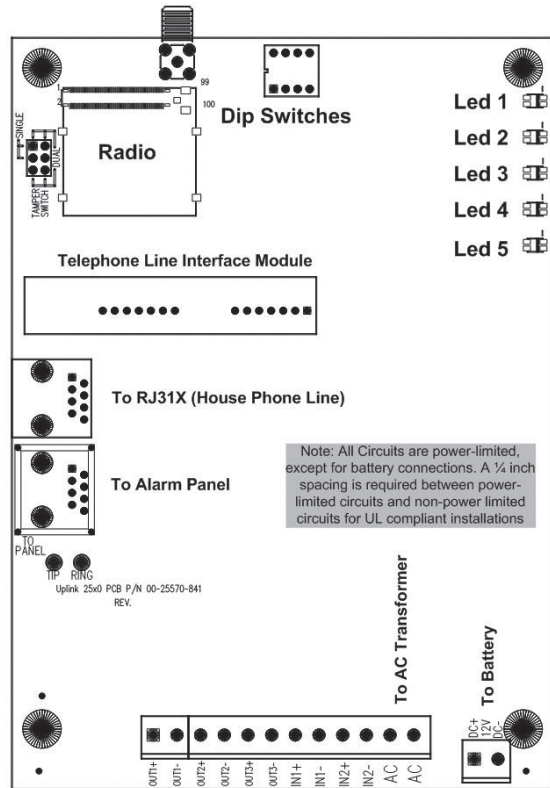

FIGURE 1: Parts on the 2550-CF PC Board
1. Open the enclosure's door. Locate the four (4) mounting holes. Use the enclosure as a template to mark where to drill holes for the screws and anchors that will hold the enclosure in place on the wall.
3. Go to the red, 4-position Dipswitch as shown in Figure 1 and set the dipswitch as appropriate for this installation (table on page 16).